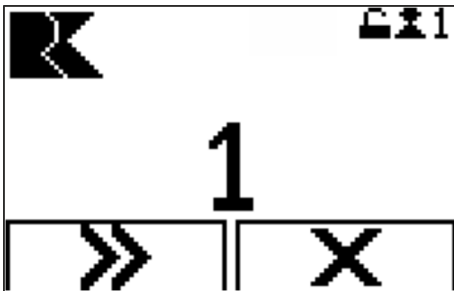

Fig. 119: Selecting memory positions
2. → Select the memory position to be assumed (in this case: '1', Fig. 119).